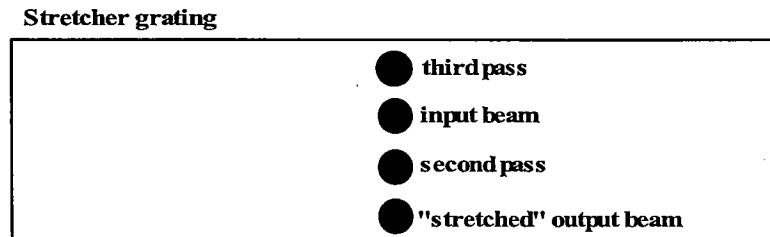

Fig. 3.7 Four spots on the stretcher grating.
3. If the iris were not in place and the setup of the stretcher was ok, one would see 4 spots lined vertically over one another. Each spot representing one pass within the stretcher setup as shown in Fig. 3.7.